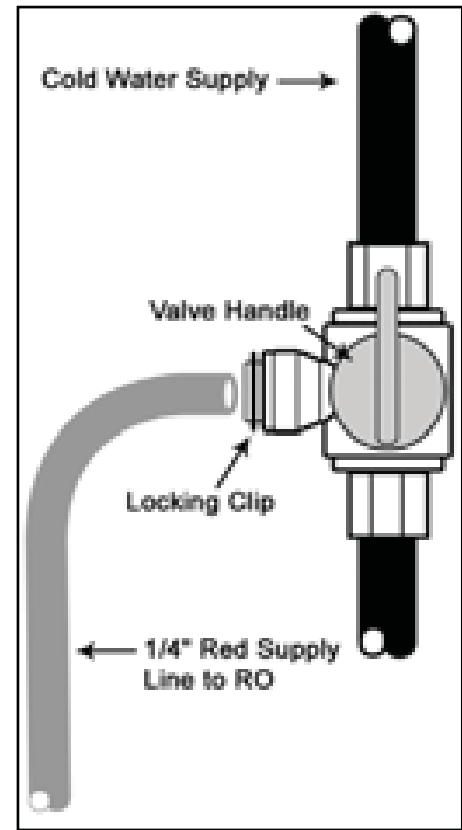

Figure 12: Feed Water Supply Valve
2. Turn off the feed (cold) water supply valve. (See Figure 12).